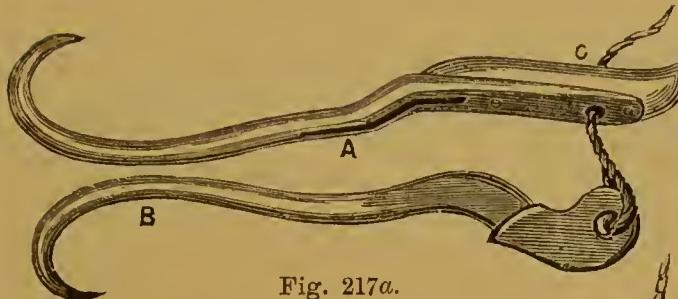
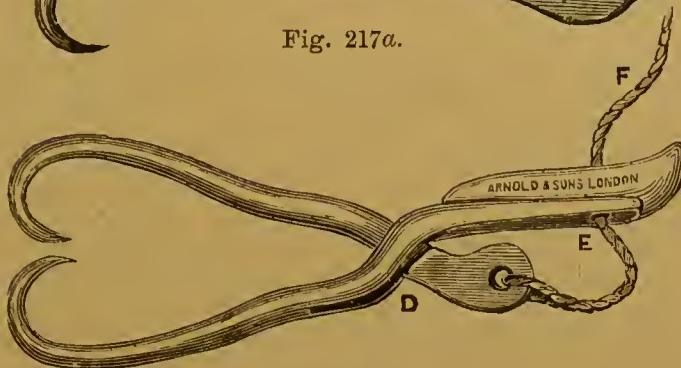

Fig. 217a.
Fig. 218.
Figs. 217a and 218 ... ... ... ... £1 0 0
*A.* A single hook for manipulating previously to uniting as a double hook, with slot for opposite blade (*B*) to pass through, as shown in Fig. 217a. *B.* A second hook, with cord attached. *C.* Wooden handle, terminating with curved end, preventing hand slipping. *D.* Handle showing blade passed through opposite one, with ring and rope (*F*) attached. *E.* Opening in handle for cord (*F*) to pass through from opposite blade when ready for use, as Fig. 218. *F.* Cord ready for use.